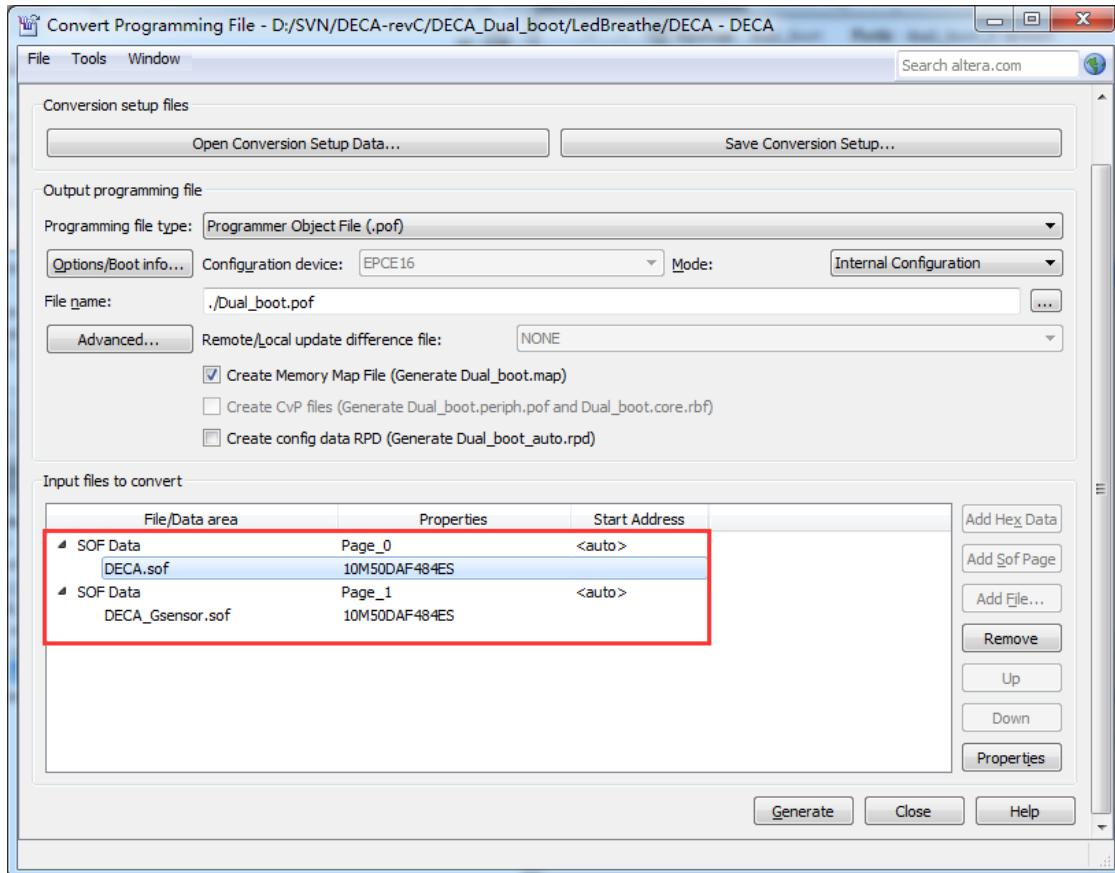

Figure 8-15 Add sof Page and sof Data
8. Click **Add Sof Page** to add Page_1 and click **Add File**, Select the DECA_Gsensor.sof of DECA_Gsensor demo to be the .sof data of Page_1 as shown in Figure 8-15.